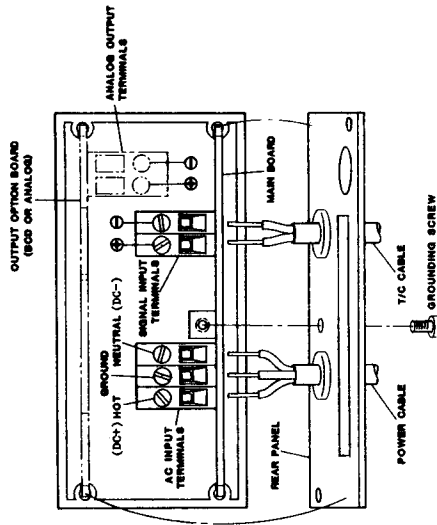

FIGURE 2-5. INDICATOR REAR VIEW
All instrument connections are made at the rear. Power, signal input, and analog output cables are routed through the grommeted rear panel feedthroughs for connection to terminal blocks. Remove the indicator rear panel (extract three screws) for access to the terminal blocks. See Figure 2-5 for terminal locations and polarity assignments.
2.4.3 Analog Output Connections. The analog output is available from a pair of quick connect screw terminals on the optional Analog Output board. Refer to 2.4.2 above. The voltage output is proportional to the display reading with 1 mV (± 2 mV) per degree. Maximum current drive is 2 mA. Observe proper polarity when using the output terminals. Use a twisted pair cable for connecting the analog output to the external device input. See Figure 2-5.
- b. Observing proper polarity, connect appropriate type thermocouple probe to signal input terminals. Refer to 2.4.1 and Figure 2-5.
- c. Observing proper polarity, connect calibrator source to signal input terminals. Refer to 2.4.1 and Figure 2-5.